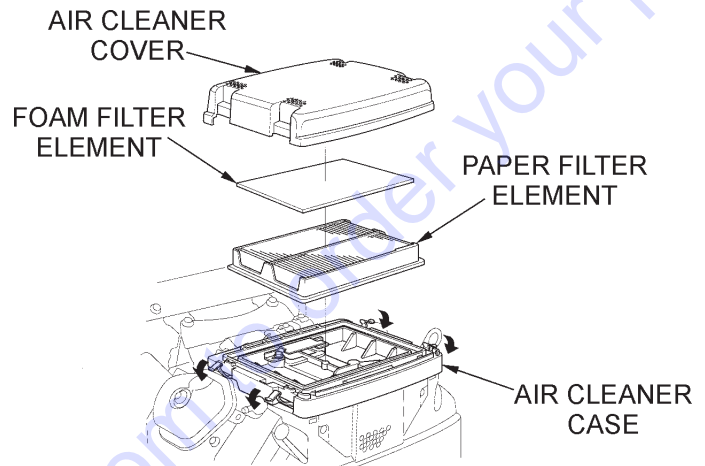

Figure 12. Air Cleaner Components
1. Release the four latch tabs (Figure 12) from the air cleaner cover, and remove the cover.